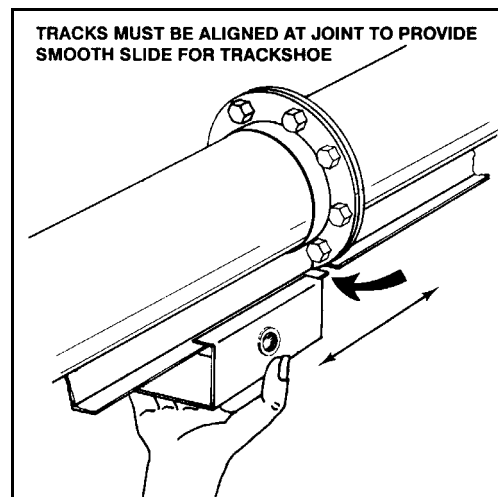

Figure 3.3
4. Slide track shoe along full length of track to make certain there is no binding and that track ends are properly aligned. The upper and lower tracks must be aligned to allow track shoe to roll smoothly over this joint (Figure 3.3).